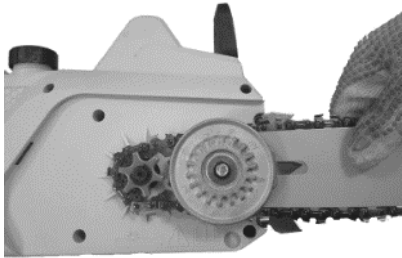

Fig.4
4. Place the chain links around the chain wheel and put the bar on such that the one locating pegs fit into the slotted hole of the bar .(fig.4)